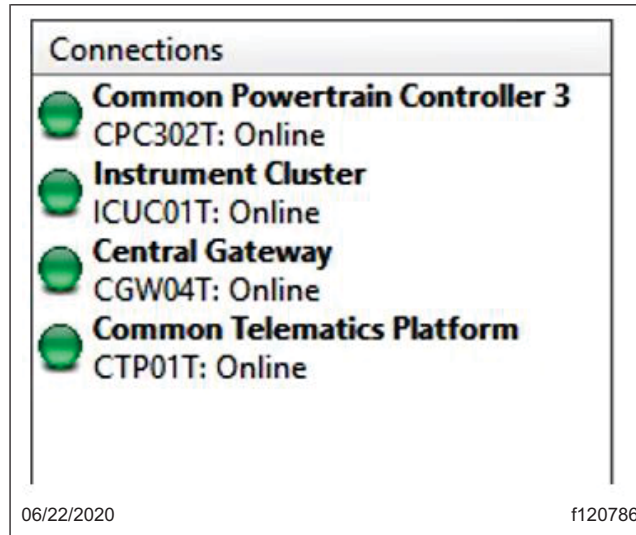

Fig. 7, DiagnosticLink Connections Panel
12. Wait until all four controllers are fully connected and the connection indicators turn green. See **Fig. 7**.